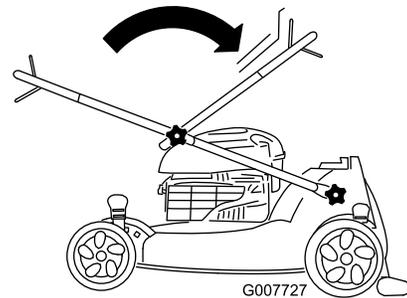

Figure 3
1. Unfold the handle as illustrated in Figure 3 and Figure 4.